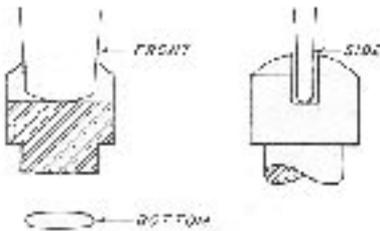

Fig. 4. Poor Screw Driver Tip
1. See that the tip of the screw driver is in good condition, the bottom squared, and the sides straight, as shown in Figs. 4 and 5.